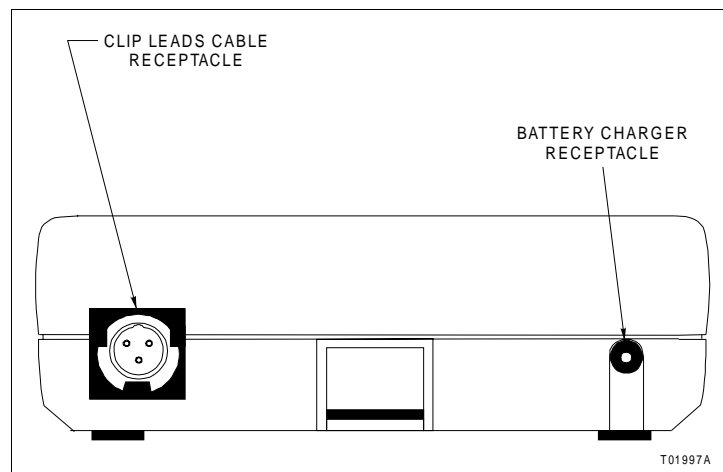

Figure 3-1. Receptacle Locations
1. Insert the male end of the battery charger into the battery charger receptacle on the STT04 terminal (Fig. 3-1).
1. Insert the female end of the clip leads cable connector into the clip leads cable receptacle on the terminal with the button facing up (Fig. 3-1). Make sure the connector is fully engaged.